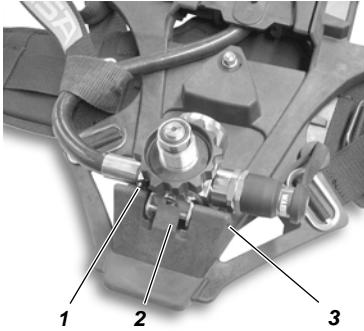
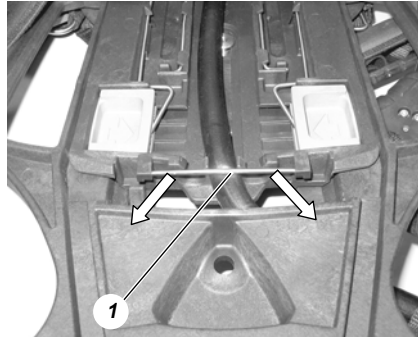

Fig. 9 Remove pressure reducer
Fig. 10 Remove line
- (4) Slide shoulder pads to lowest position in the lateral guide slots of the slide carrying plate, tilt buttons a little towards outside and take pads out of guide slots.
- (5) Unbutton shoulder pads and hip belt from carrying plate.
- (6) Press retaining pin (see Fig. 10) of the multi-channel tube slanting downwards and remove.
- (7) Do the same on the other side of the carrying plate.
- (8) Remove multi-channel line from the guide on the carrying plate.
- (9) Push out the spindle (3) in the pressure reducer holder (see Fig. 9).
- (10) Remove pressure reducer from the carrying plate, **do not** push up the stop spring (2).